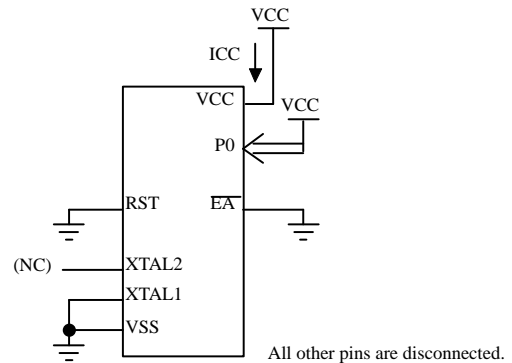

Figure 19. ICC Test Condition, Power Down Mode.
- Idle ICC is measured with all output pins disconnected; XTAL1 driven with TCLCH, TCHCL = 5ns, $V_{IL} = V_{SS} + 0.5\text{V}$, $V_{IH} = V_{CC} - 0.5\text{V}$; XTAL2 N.C.; Port 0 = VCC; EA = RST = VSS (see Figure 19.).
- Power Down ICC is measured with all output pins disconnected; $\overline{\text{EA}} = \text{PORT } 0 = V_{CC}$; XTAL2 NC.; RST = VSS (see Figure 19.).